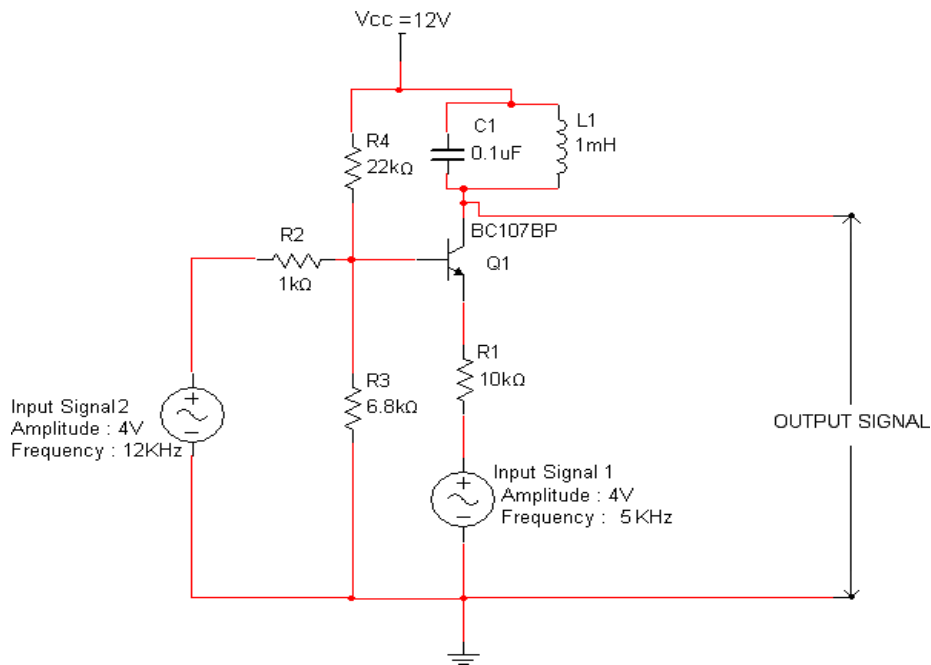

FIG.1.MixerCircuit
1. Connect the circuit as per the circuit diagram as shown in Fig.1. Assume $C=0.1\mu\text{F}$ and calculate value